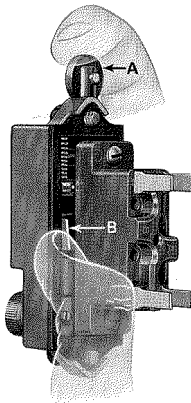

Figure 2: Setting the Roller Direction
2. Referring to Figure 2, depress the roller plunger (A) and hold it down.
3. Push in on the snap switch operating tab (B) and hold it in this position.
4. Release the roller plunger (A) and pull it outward until it is free to turn. Rotate the roller plunger 90 degrees and again depress it fully. Release the operating tab (B) and roller plunger (A).